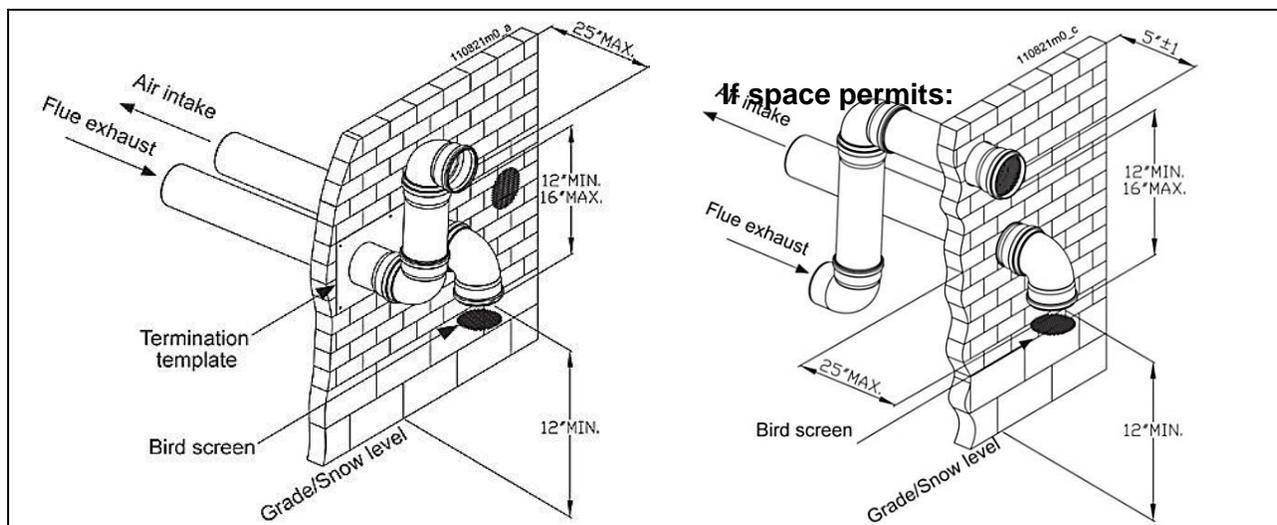

Figure 6-5: Sidewall Termination of Air and Vent Pipes
3. The vent piping must terminate in an elbow pointed outward as shown in Figures 6-5, 6-6, or 6-7.
4. Maintain clearances as shown in Figure 6-5. Vent must terminate as follows:
- The air termination coupling must be oriented at least 12 inches above grade or snow line as shown in Figure 6-5.
- Maintain the required dimensions of the finished termination piping shown in Figure 6-5.
- Do not extend exposed vent pipe outside of the building more than what is shown in Figure 6-5. Condensate could freeze and block vent pipe.